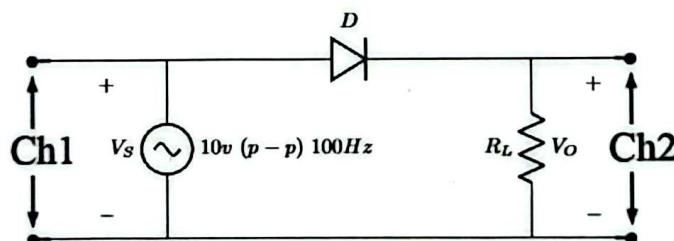

Figure 1: **Half-Wave Rectifier**
1. Construct circuit of **Figure 1**. Observe  $V_S$  and  $V_O$  simultaneously on Channel 1 and Channel 2 of the oscilloscope respectively.